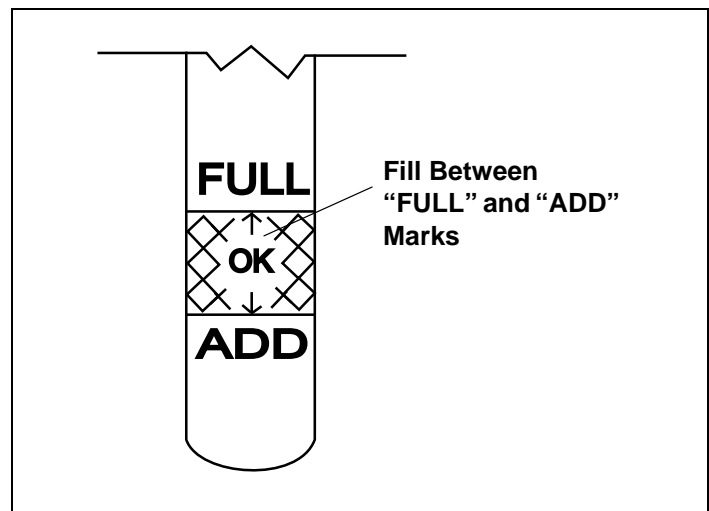

Figure 6. Engine Oil Level
- Keep oil level between "FULL" and "ADD" marks on dipstick or to point of overflow on engines without dipstick. See Figure 6.
4. Unscrew and remove oil fill cap/dipstick from oil filler tube. Note oil level. If oil reading on dipstick is below "ADD" mark, slowly add oil to reach "FULL" level. See Figure 6 on page 4. Afterward, continue reading instructions below.